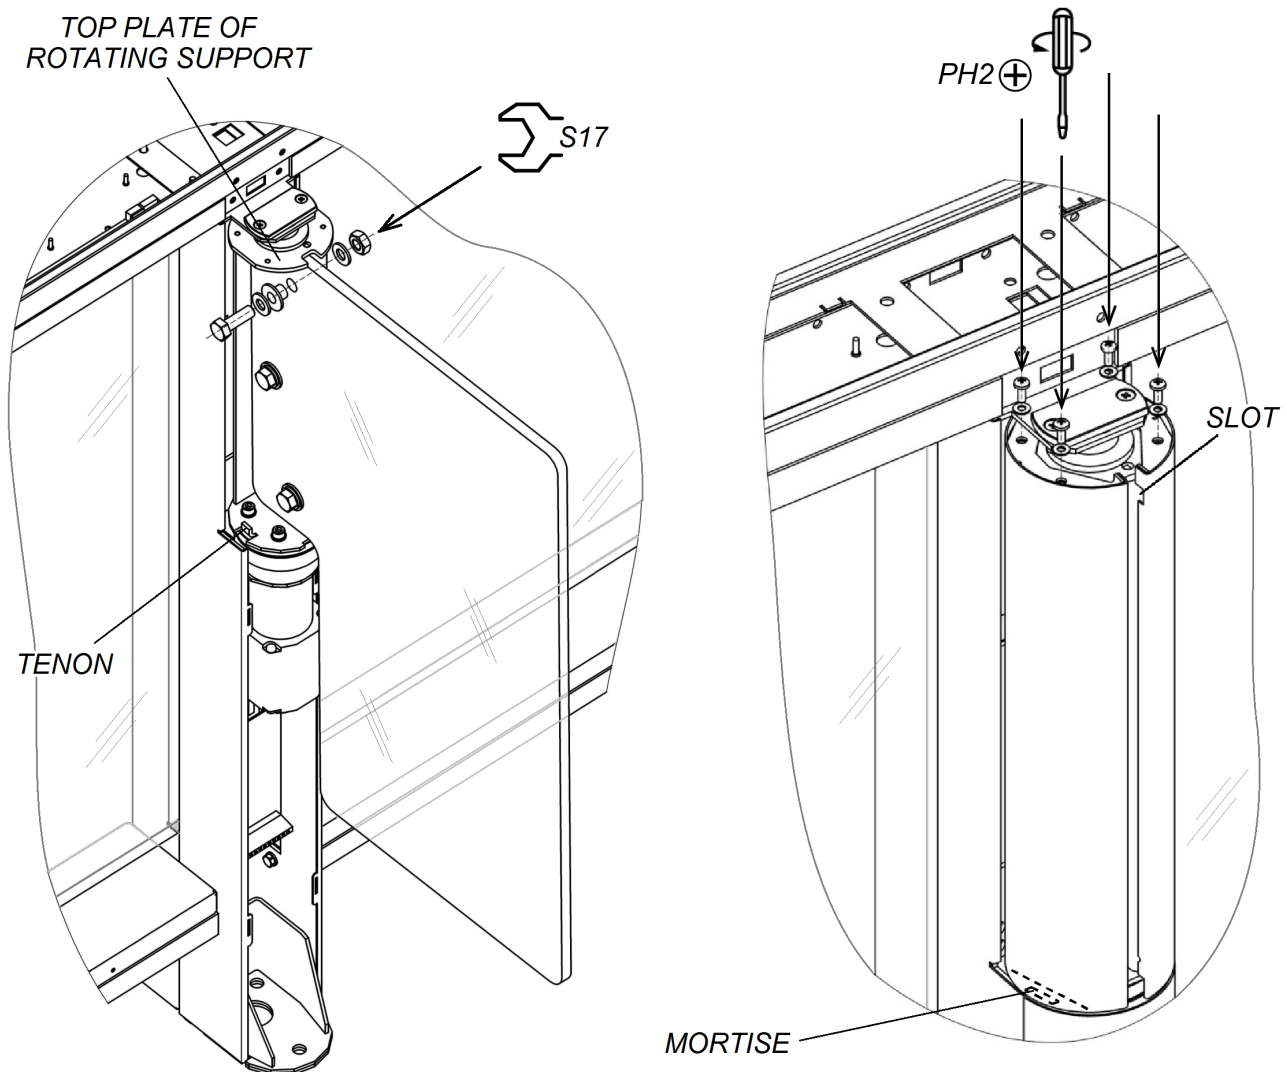

Figure 23. Swing panel and its cover plate
22. Unpack the glass swing panels (1) and mount them (Fig. 23, Sect. 8.9.3).
23. Mount swing panel cover plate (4) from installation kit (Fig. 23, Sect. 8.9.4).
Two people shall install and remove the swing panels. The swing panel is fixed to the rotating support in three places with M10×30 bolts, 10 washers, plastic bushing and M10 screws (Fig. 23). Use S17 open end wrenches.
2. Assemble one of the cover plate components on the rotating support. In order to do that, mount the cover plate on the upper plate of the rotating support through the slots in the upper part of the cover plate. After that, shift the cover plate down to the end, mounting the bottom cover plate mortise into a tenon, located in the bottom part of the rotating support (Fig. 23).